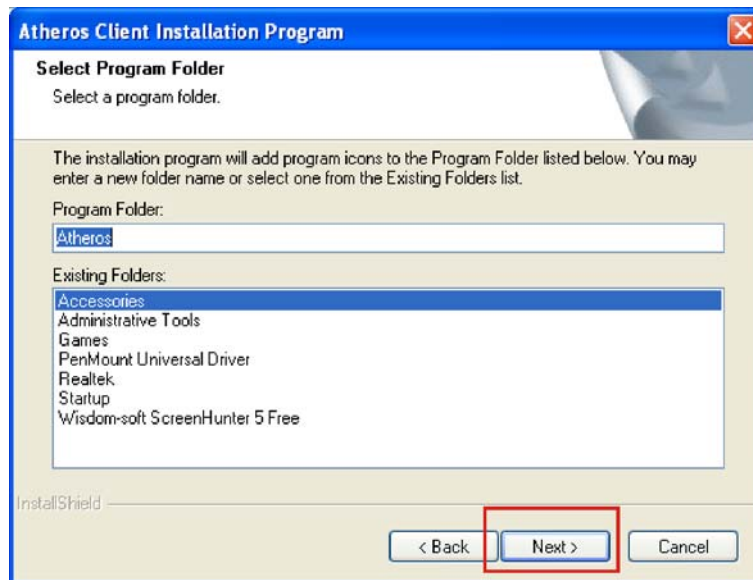

Figure 6-33: Select Program Folder
Step 13: The **Select Program Folder** window appears (Figure 6-33).